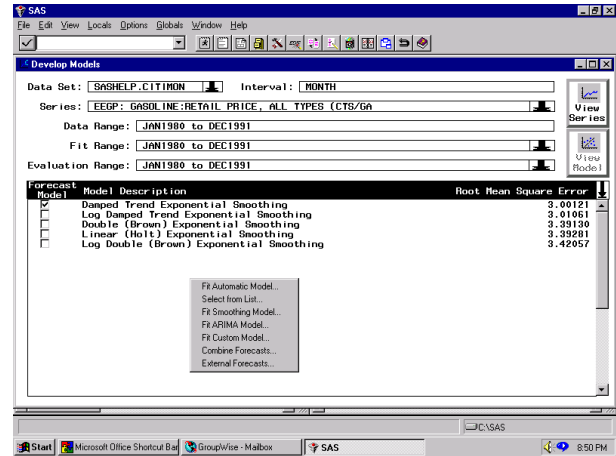
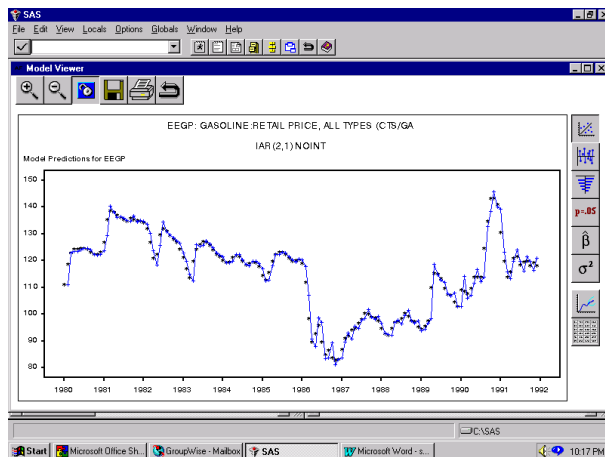
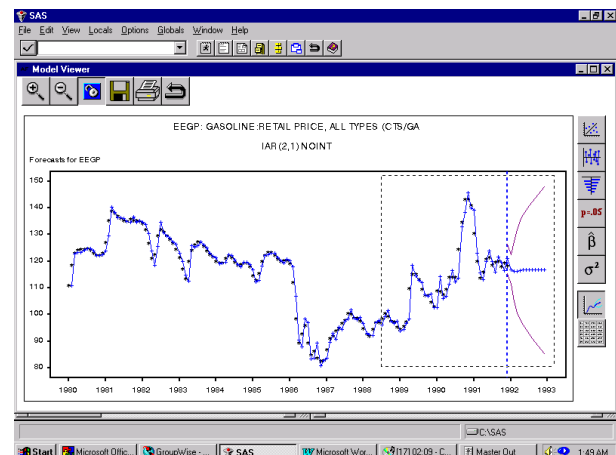
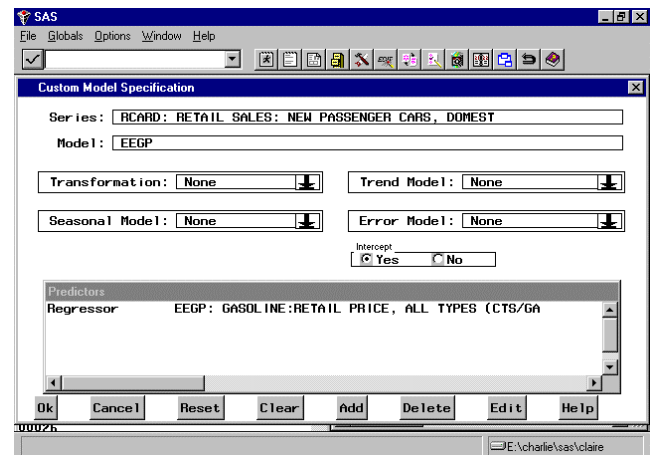

Figure 16 Develop Models
Figure 18 Model Viewer
Figure 20 Zooming In on Plot Forecasts
Figure 23 Custom Model Specification
The plot of first differences shows no obvious evidence of a trend remaining in the series, and the autocorrelation plot is consistent with a stationary series. Examination of the autocorrelation and partial autocorrelation plots suggests that an autoregressive model in first differences might be appropriate, that is, an IAR(2,1) model. Clicking on the **Goback** icon on the right along the top returns you to the **Develop Models** screen (see Figure 16).
Clicking "Ok" estimates the IAR(2,1) Model and returns you to the **Develop Models** screen where you see that the IAR(2,1) model has a RMSE of 2.82 and, hence, is the best model found so far according to the RMSE criterion. The IAR(2,1) model was not found before because it did not appear on the **Model Selection List**. You will see how to add a model to the list later. For now, highlight the IAR(2,1) model, right-click and select the first choice on the popup menu, **View Model....** This brings up the **Model Viewer** screen (see Figure 18).
- Predictions (the default in Figure 18)
Click on **OK** to return to the **Develop Models** screen. To see the forecasts for the IAR(2,1) model, click on the line for that model to highlight it (it should be the last model in the list). Clicking on the **View Model** button on the upper right (see Figure 16) brings up the **Model Viewer** screen (see Figure 18). Click on the bottom button on the right, **Plot Forecasts**. To zoom in on the end of the series, click on the **Zoom In** button at the left along the top. The mouse pointer changes its appearance; holding down the left mouse button, trace out a box including the last few years of the graph (see Figure 20).
Now you will see if you can improve the forecasting model for RCARD by using EEGP as an explanatory variable. When you fit automatic models to both EEGP and RCARD, you found that the best fitting model was the Log Winters Method – Additive, which had an RMSE = .70. The Winters Method – Additive had only a slightly larger RMSE of 0.72. To use EEGP as an explanatory variable in a model for RCARD, return to the **Develop Models** screen (see Figure 16) and select RCARD as the Series. Click in a blank area of the screen and select **Fit Custom Model...** to get the **Custom Model Specification** screen. In the lower portion of the screen labeled Predictors, click and select **Add Regressors...** and select EEGP. The result is Figure 23.